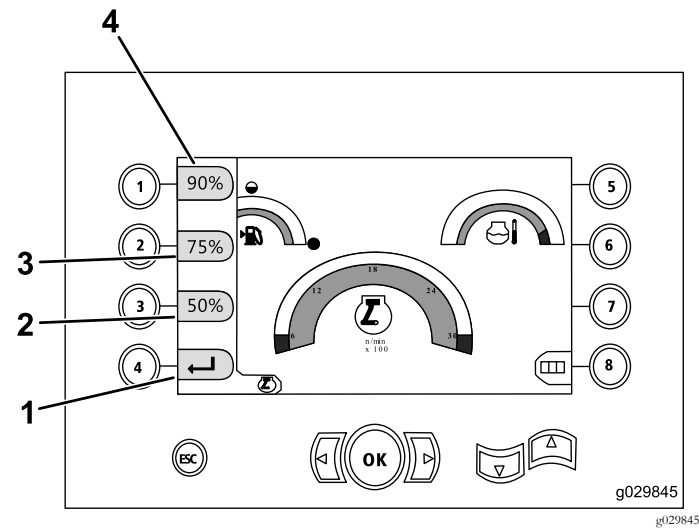

Figure 6
- Press button number 1 to activate 90% engine speed (rpm) as shown in Figure 6.
- Press button number 2 to activate 75% engine speed (rpm) as shown in Figure 6.
- Press button number 3 to activate 50% engine speed (rpm) as shown in Figure 6.
- Press button number 4 to return to the main-operating screen (Figure 6).